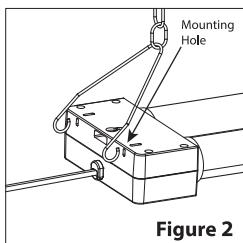

Figure 2
2. Attach chain to V-hooks then insert hooks into mounting holes located on top of fixture (See Figure 2). Do this for both ends of the fixture.